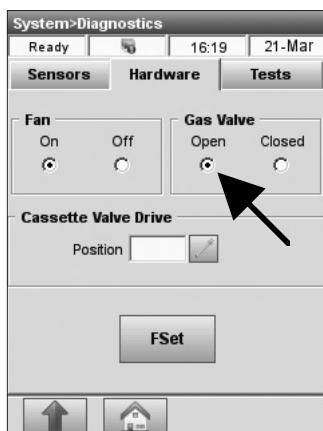

Fig. 8-9 Gas Valve
- Press the **<Open>** button under **<Gas Valve>** to start the test (Fig. 8-9).